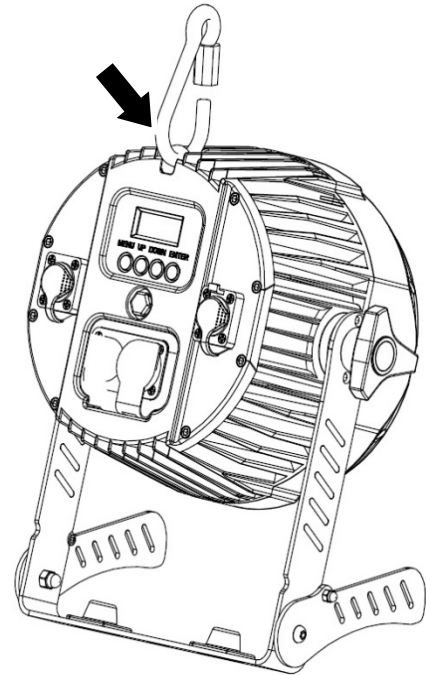

Figure 4. Safety cable attachment
1. See Figure 4. Pass a carabiner hook (arrowed) or similar means of attachment around the safety cable attachment point in the fixture housing above the control panel.